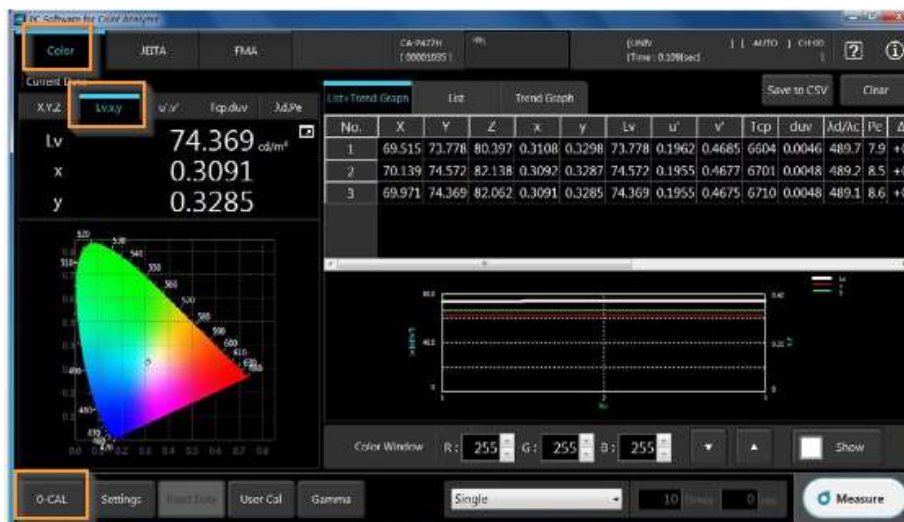

Figure 7 Zero-calibration
2. Start CA-S40, cover the lens of probe, select “Color” Tab, “LV, x, y” mode and click on “0-CAL” (Figure 7).